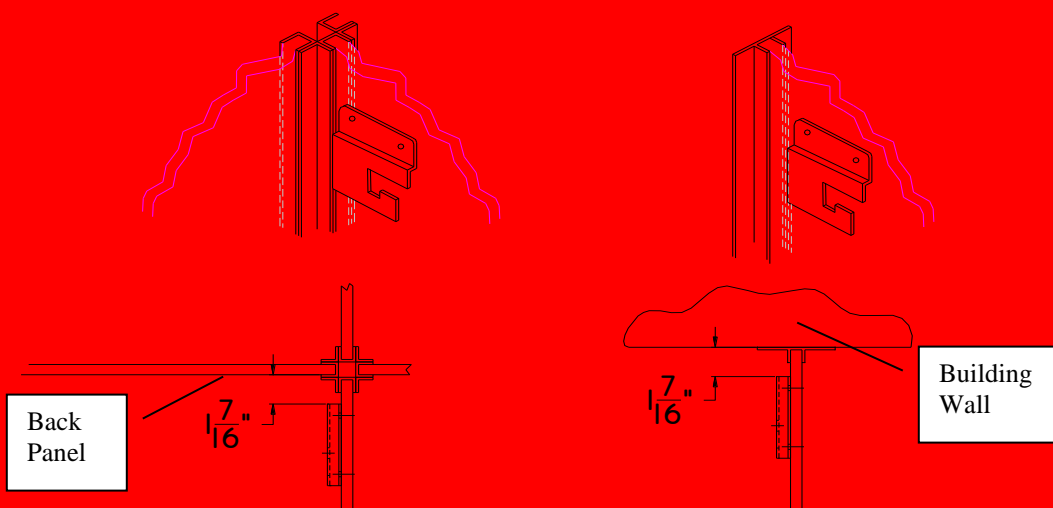

Figure 2.
2. Hold a support bracket so that the rear edge of the bracket is $1\frac{7}{16}"$ from the back of the run. (Note: on back to back runs the bracket will be against the edge of the aluminum that frames the back edge of the Division Panel) Hold the top of the bracket even with the mark. Mark the wall for drilling through both holes in the bracket. See Figure 2.